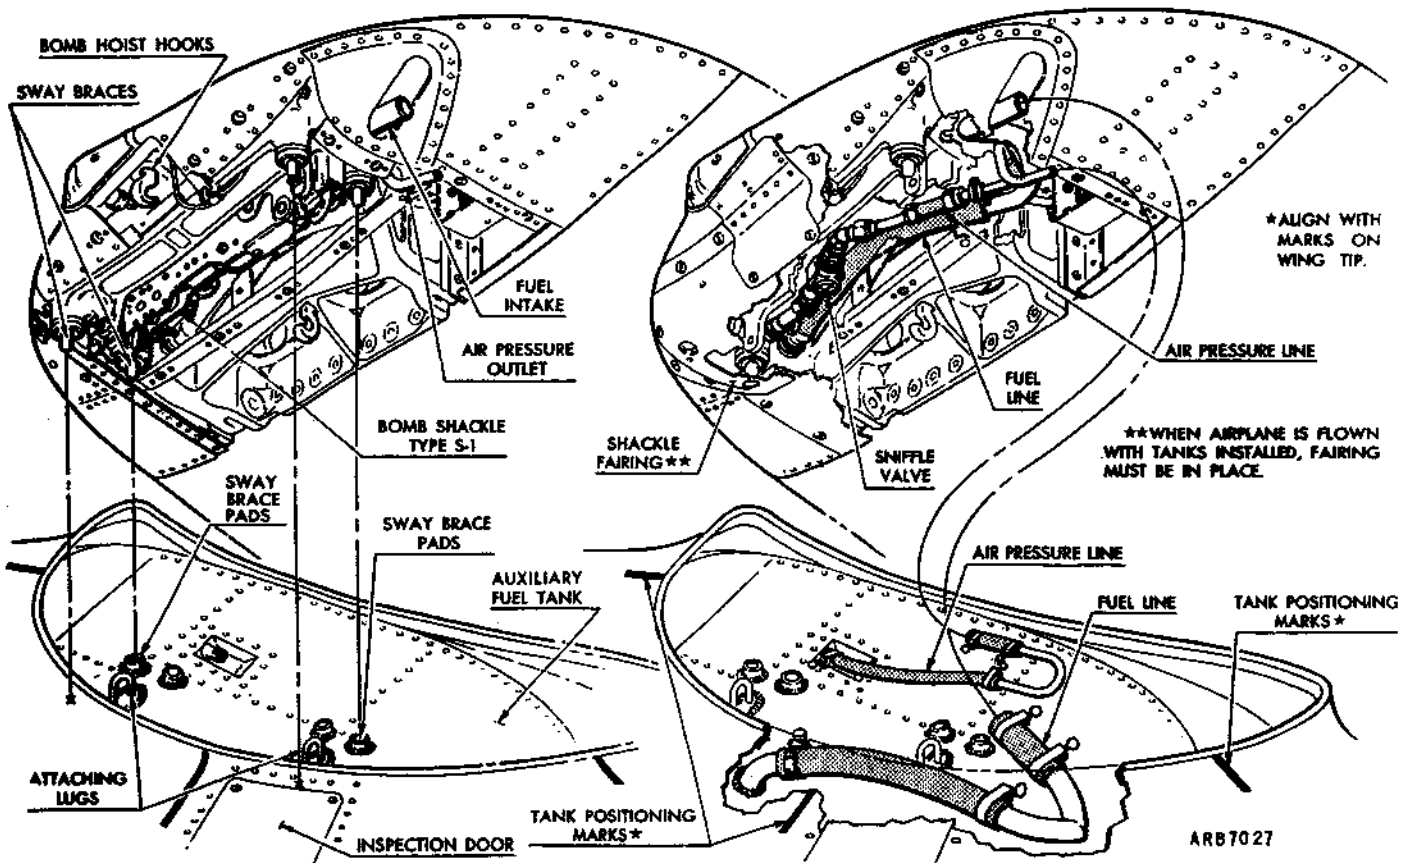

Figure 106 — Droppable Tank Installation
(6) DROPPABLE TANKS. (See figure 106.)
2. Install plumbing on tank as shown in figure 106. Be sure hose clamps are positioned so they will not cause interference between the tank and shackle fairing, and attach hoses to airplane fuel and air lines.